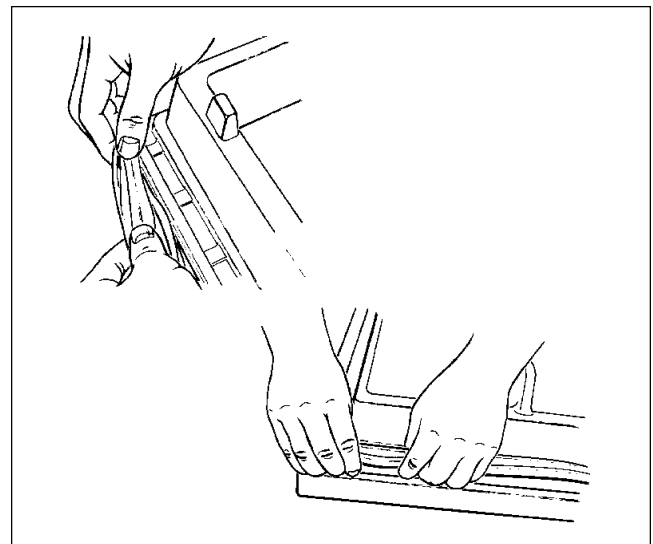

Figure 158
2. Using your fingers, snap the gasket into place. If a section of the gasket does not readily tuck under the lip of the inner panel, use a small edged roller or blunt, flat object to push the gasket into place. See Figure 158.